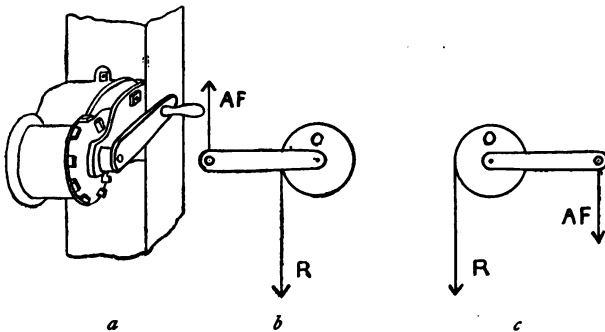

FIG. 266.—(a) WINDLASS, (b) SECOND TYPE LEVER ACTION, (c) FIRST TYPE LEVER ACTION
**286. Crank and Axle.** In the crank and axle, and the pulley, we have a case of a continuous lever. In the windlass (Fig. 266) used for winding clotheslines, the acting force is applied at the handle and the resistance is on the hub or drum.